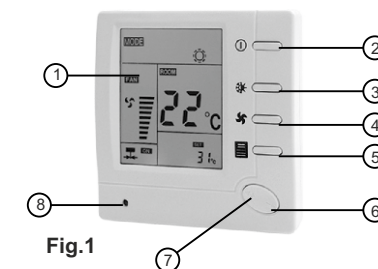
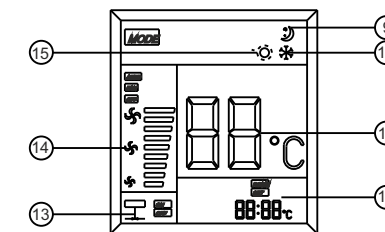

Fig.1
Fig.2
- Front panel (Fig.1)
Display (Fig.2)
Press fan speed selection button. On the display, one of the characters (14 in Fig.2) will appear or AUTO. This means that fan will rotate at HI (high), MED (medium), or LOW (low) speed or in AUTO (automatic mode). If AUTO mode is selected, fan rotation speed will change, depending on difference between actual temperature in premise and set temperature. If temperature in the premise is by more than 3 degrees higher than set temperature during cooling and by more than 3 degrees lower than set temperature during heating, fan will operate at the highest speed. If temperature in the premise is by 2-3 degrees higher than set temperature during cooling and by 2-3 degrees lower than set temperature during heating, fan will operate at medium speed. If temperature in the premise is by 0-1 degrees higher than set temperature during cooling and by 0-2 degrees lower than set temperature during heating, fan will operate at low speed.
Using mode selection button, select heating mode (15 in Fig.2).
Using mode selection button, select cooling mode (10 in Fig.2).
Press "night" mode selection button (5 in Fig.1). Symbol of "night" mode (9 in Fig.2) will appear. This mode will active during 8 hours, at that, room thermostat will control heating or cooling according to the chart (see below). Press "night" mode selection button once more, appropriate symbol will disappear; this means cancellation of "night" mode operation.
Switch off room thermostat, pressing "power" button, then press and hold "night" mode selection button (5, Fig.1) at least 4 seconds until the display switches on. This means that you have entered the first menu option of setting mode. There are 4 menu options, that is represented on the display. Selection of appropriate menu option is made by pressing (5) button. In each menu option, press "+" or "-" button to change settings. To quit the menu and return to normal operation mode, switch off room thermostat, pressing "power" button and, then, switch it on again.